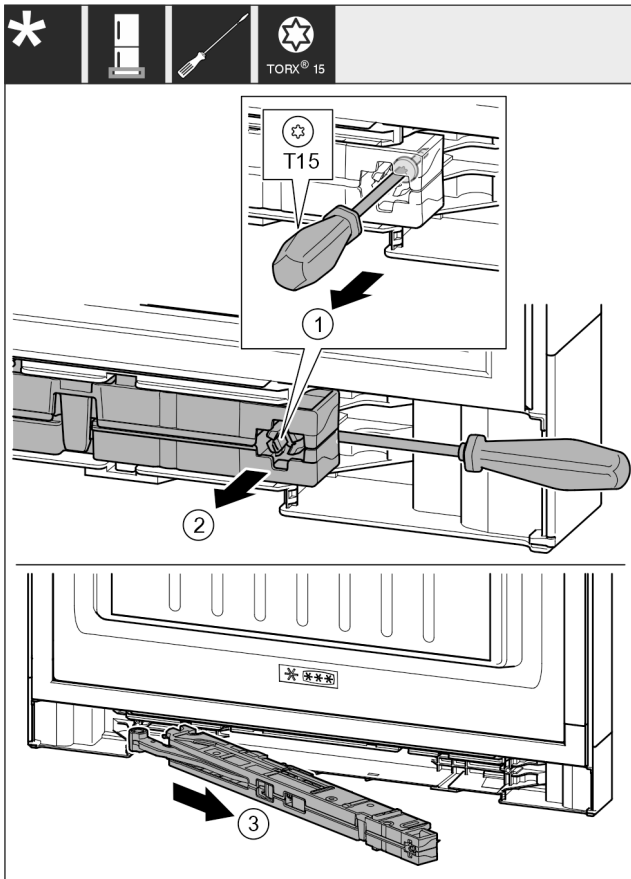

Fig. 18
- Use screwdriver to loosen the screw Fig. 18 (1) on the closing damper unit by 14 mm.
- Lever the closing damper unit Fig. 18 (2) forwards on the handle side using a screwdriver.
- Pull out the closing damper unit Fig. 18 (3).